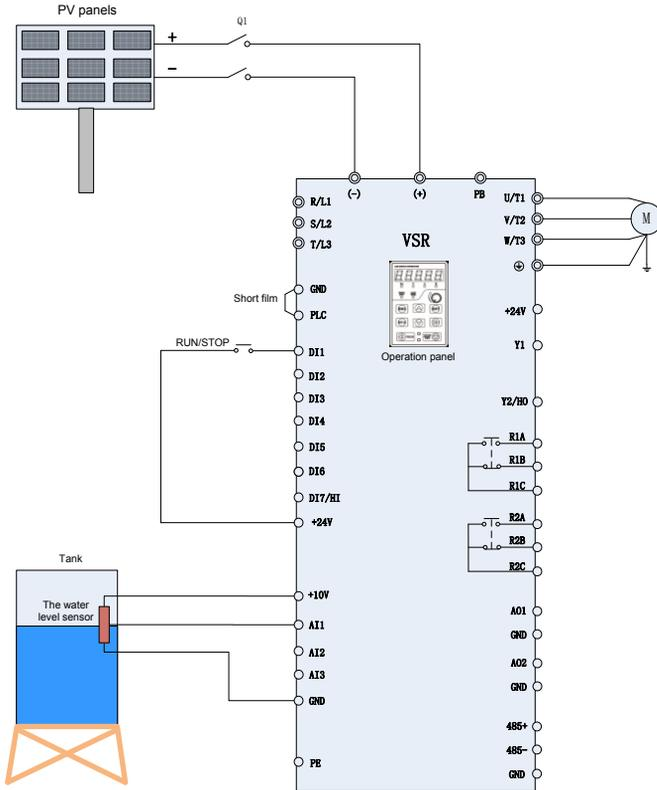

Fig 7-3 PV Cell Power Supply Wiring Diagram
Refer wiring drawing of inverter as shown in Figure 7-3
- 1). Ensure wiring is done as per Figure7-3, check and confirm the wirings to be correct, and then close Q1.